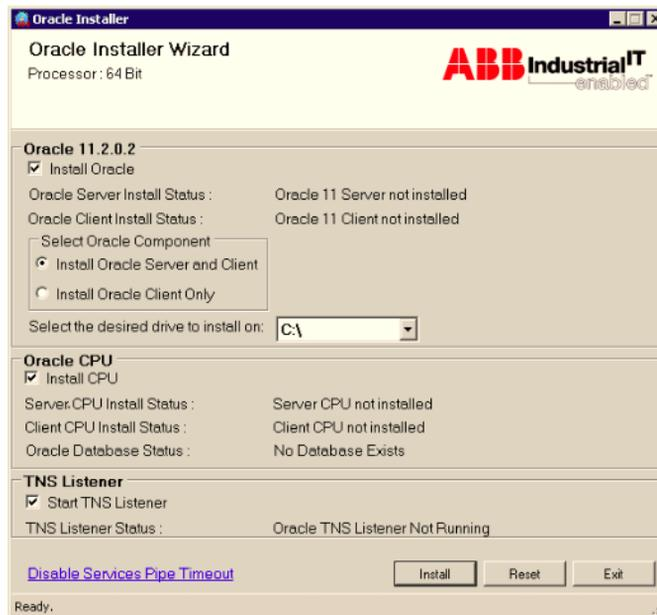

Figure 1. Oracle Installer Wizard
The wizard installs (Figure 1) the 64-bit version of oracle server and 32-bit version of oracle client in 64-bit node.
4. The Oracle Installer Wizard (Figure 1) containing the following components appears:
The Oracle Server, CPU, and TNS Listener are enabled for installation, by default. The status for the Oracle components is displayed as shown in Figure 1 for a fresh installation.